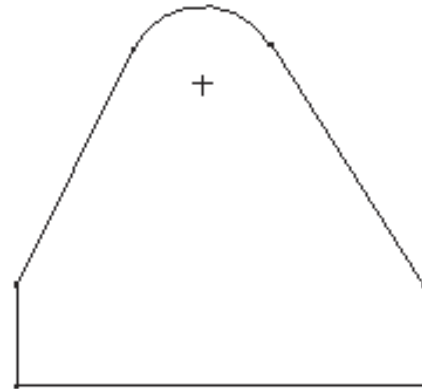

Figure 1-29 Arc drawn tangent to the lines
3. Using the left mouse button, select the endpoint of the right inclined line as the endpoint of the arc, see Figure 1-29.